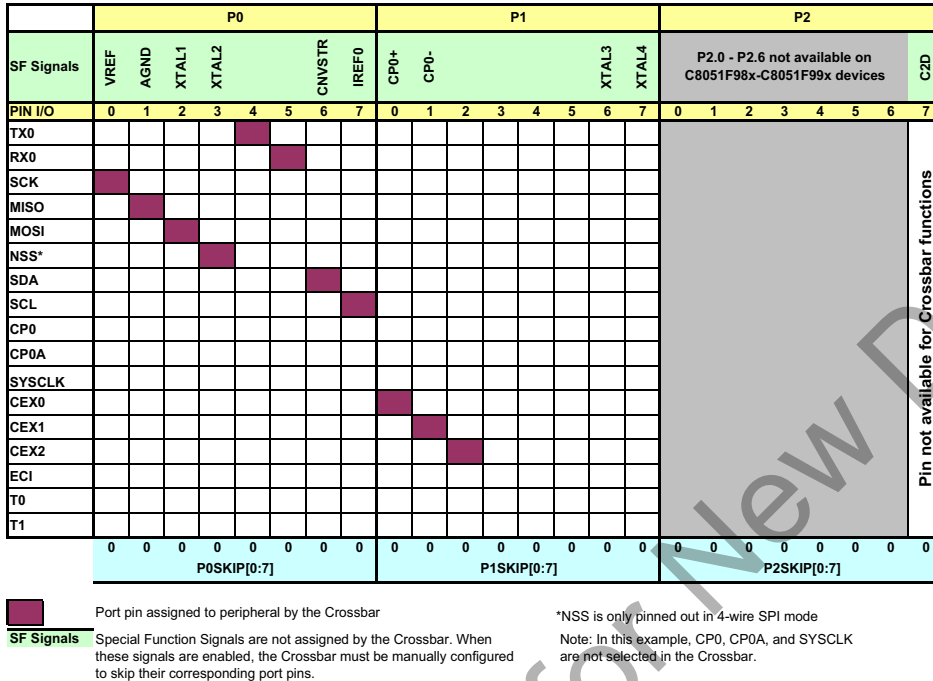
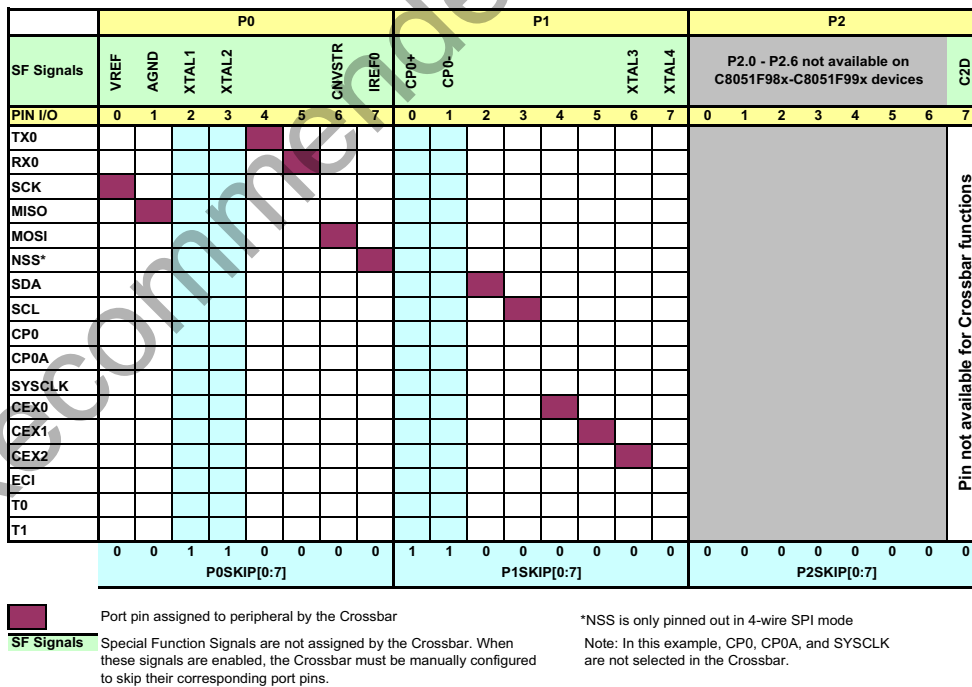

Figure 21.4. Crossbar Priority Decoder in Example Configuration (No Pins Skipped)
Figure 21.5. Crossbar Priority Decoder in Example Configuration (4 Pins Skipped)
**Important Note on Crossbar Configuration:** If a Port pin is claimed by a peripheral without use of the Crossbar, its corresponding PnSKIP bit should be set. This applies to the VREF signal, external oscillator pins (XTAL1, XTAL2), the ADC's external conversion start signal (CNVSTR), EMIF control signals, and any selected ADC or Comparator inputs. The PnSKIP registers may also be used to skip pins to be used as GPIO. The Crossbar skips selected pins as if they were already assigned, and moves to the next unassigned pin. Figure 21.3 shows all the possible pins available to each peripheral. Figure 21.4 shows the Crossbar Decoder priority in an example configuration with no Port pins skipped. Figure 21.5 shows the same Crossbar example with pins P0.2, P0.3, P1.0, and P1.1 skipped.